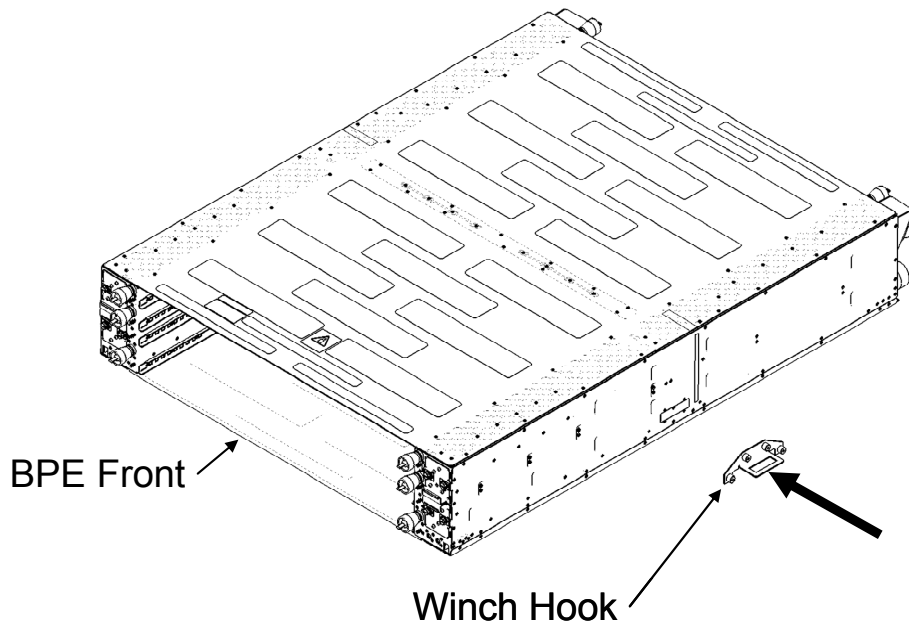

**Figure 45** Align BPE with transfer cart
80. Pull the damaged BPE onto the transfer cart. Attach the winch strap to the winch hook on the BPE. Make sure the BPE front and rear shipping brackets are aligned with the guides on the transfer cart (see **Figure 45**). Slowly use the winch to pull the BPE onto the transfer cart (see **Figure 46**). Make sure the BPE slides straight onto the cart.